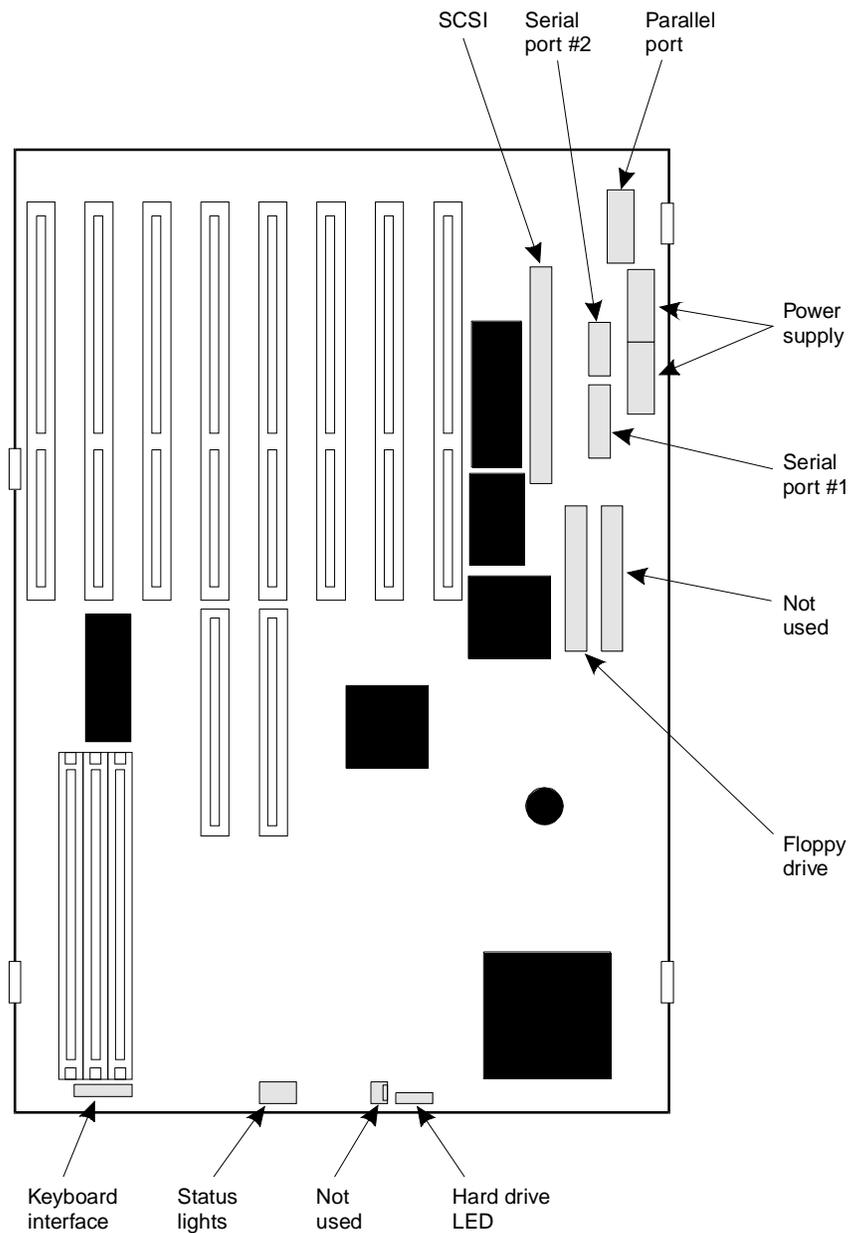

Figure C-6. Cable Connector Locations on the System Board
2. Disconnect all cables from the system board. Begin with the three small cables at the front of the MAP/5 as shown in Figure C-6.
3. Remove the seven power and ribbon cables at the top right of the board as shown in Figure C-6.